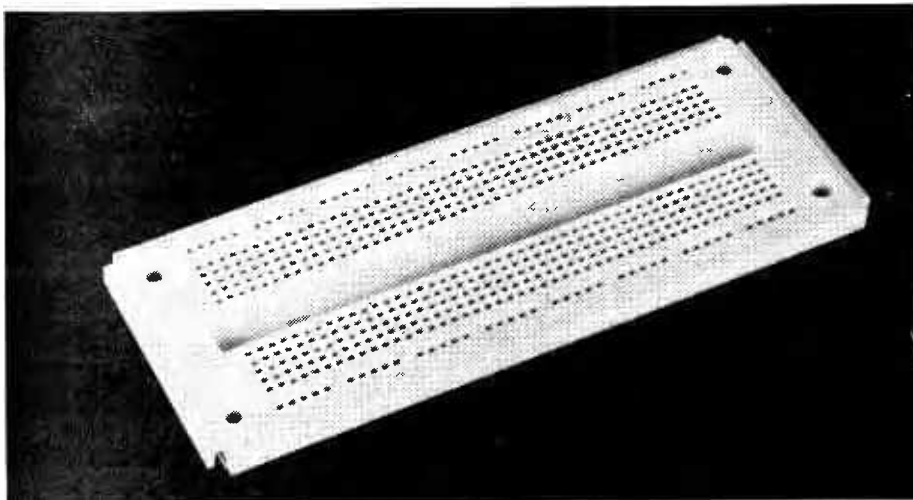

Fig. 6
**Experimentor**, see Fig. 6, type 300 measures 152  $\times$  53mm, and type 600 measures 152  $\times$  60mm. Both versions follow the connection system in Fig. 1(a), and are designed to accept 0.3in or 0.6in i.cs together with most discrete components. The layout has 470 main sockets in a 0.1in matrix organised as two columns, each of 47 rows containing five interconnected sockets.